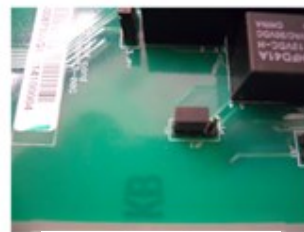

Figure B7
- *N/C Contact* - (factory default), JP3 jumpered 1 to 2. See Figure B7.